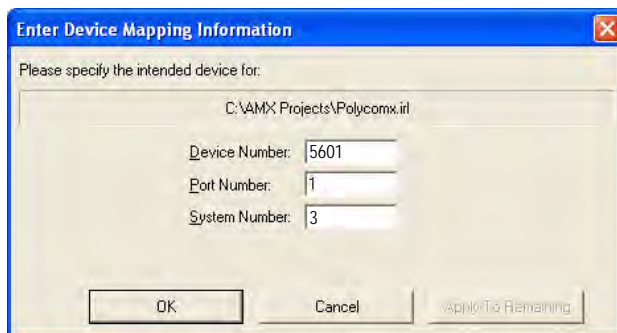

FIG. 57 Enter Device Mapping Information dialog (NetLinx Studio)
- a. If the selected file has not been mapped to a device, the *Enter Device Mapping Information* dialog is displayed (FIG. 57).